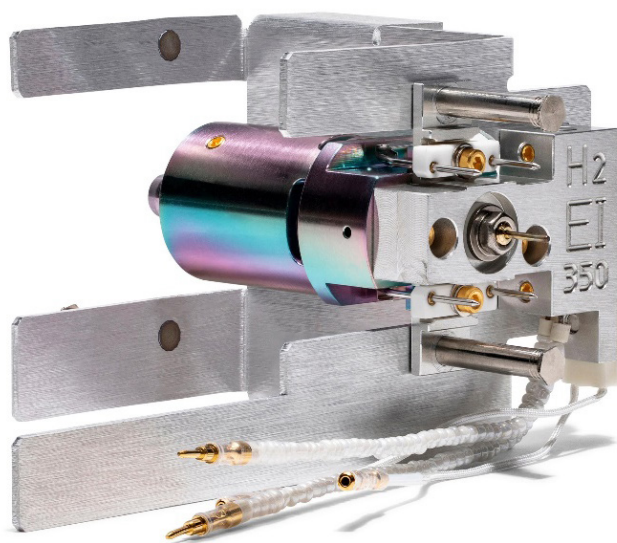

Figure 1. The Agilent HydroInert source.
The benefits of hydrogen in gas chromatography (GC) are widely accepted, as it can be generated in the lab in a cost-effective manner, produces fast chromatography, and allows for higher sample throughput. Since hydrogen is a reactive gas, hydrogenation and dechlorination reactions can and do occur in the mass spectrometer electron ionization (EI) source. These reactions can make applying hydrogen carrier gas to many applications difficult. A specially designed extractor source for the Agilent Inert Plus GC/MSD and triple quadrupole GC/MS systems address these hydrogen-related issues and improves performance with hydrogen carrier gas. The Agilent HydroInert source (Figure 1) with H₂ carrier gas retains mass spectral fidelity and can allow users to continue to use existing helium-based mass spectral libraries.